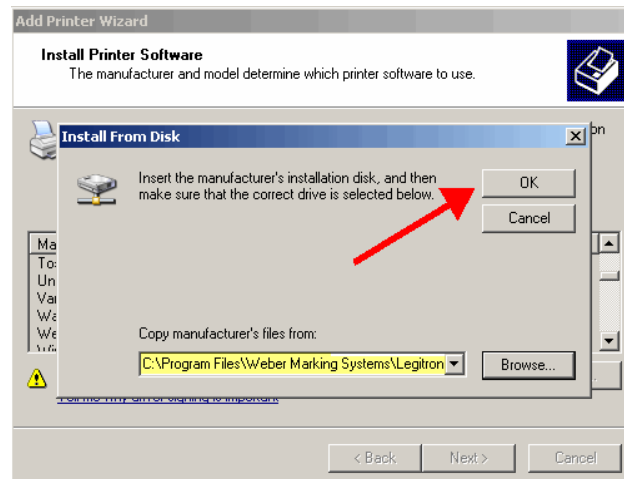

Figure 3-11
3.2.11. Click [OK] on the *Install from Disk* window. (Figure 3-11)